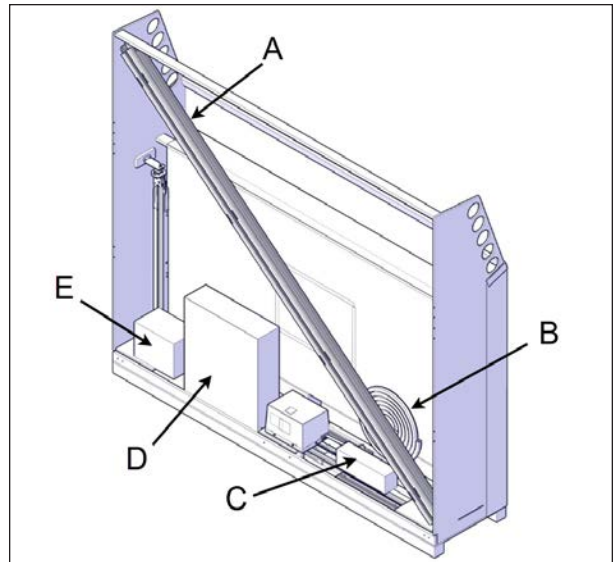

FIGURE 23: REMOVE COMPONENTS FROM CRATE
4. Remove the C-channels, U-frames, the escape hatch box, the hardware boxes, the foam pieces and the contour seal from the crate. Temporarily put these items in a safe location see Figure 23.